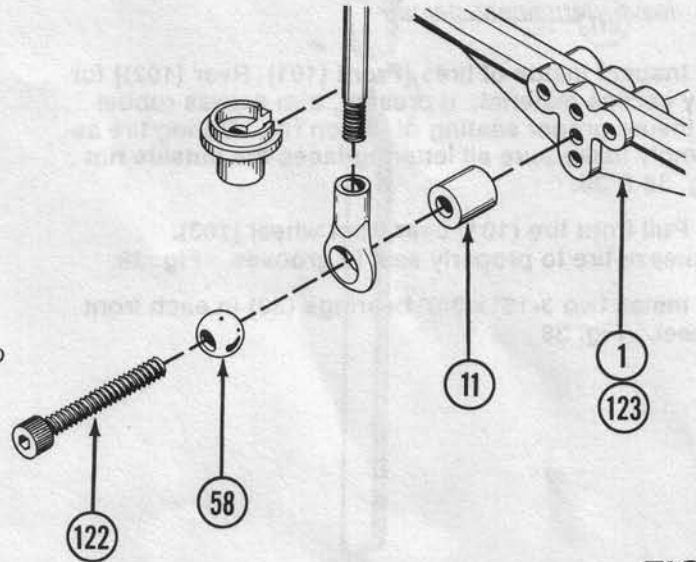

FIG. 36
1. Thread 4-40 x 5/8" socket head screw (122) through 1/4" shock mount ball (58), H-Arm spacer (11) and into middle hole in H-Arm (1) (123). Fig. 36.
2. Place top of shock body (96) on top shock mount (56) on shock tower (5). Fig. 36.
3. Secure shock with 4-40 nylon nut (51). Fig. 36
* NOTE: It is convenient to rotate shock collars (98) so they are available for adjusting on the car.